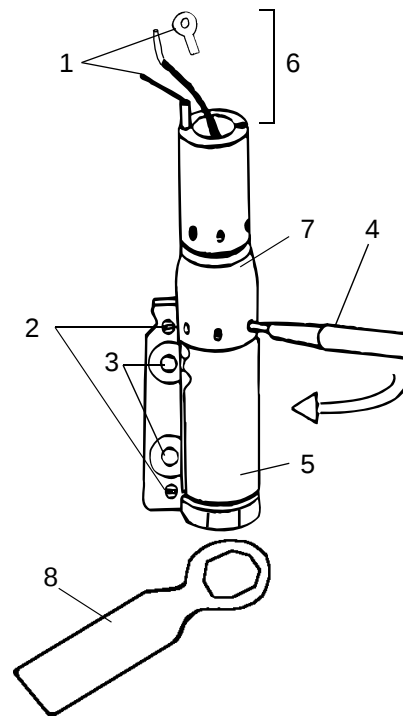

Figure 1 :
- 6 - Unfasten the cannon-holder screws (see Figure 1).